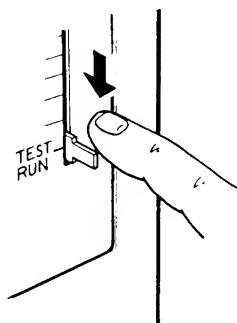

Fig. 37
- b) Set the thermostat lever to the lowest position. (The central position of the lever becomes the TEST RUN position.) Fig. 37